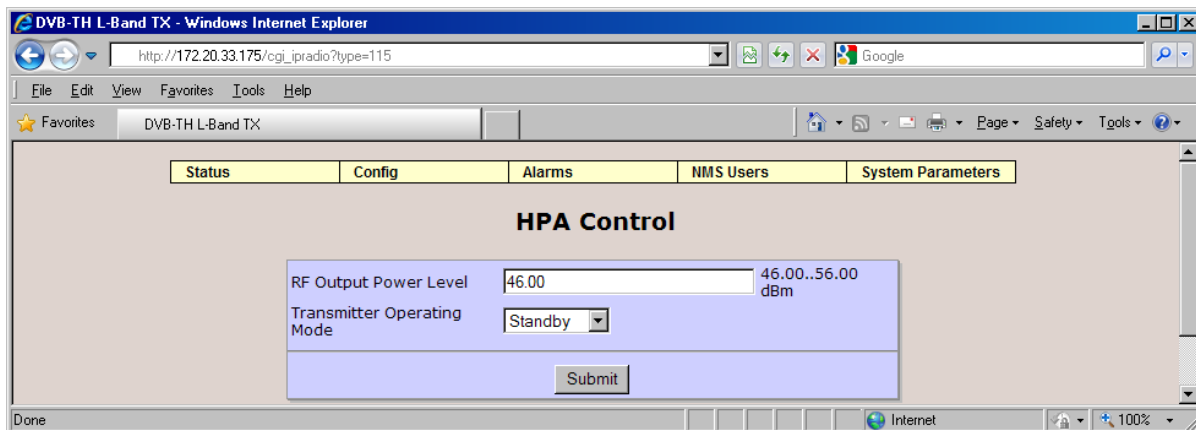

Figure 5-6 HPA Control
2. During the initial on-site turn on, it is recommended to set the transmitter output level to 46 dBm (minimum value) before the transmitter is placed in Broadcast mode. This will ensure that the effects of a transmission line or antenna fault are minimized when the RF is turned on. Navigate to Config -> HPA Control and set the output power level to 46 dBm – see Figure 5-6.